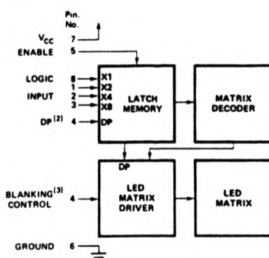

Figure 2. Block Diagram of 5082-7300 Series Logic.
4. Derate maximum DC current above TA = 63°C at 0.81 mA/°C per LED. This derating assumes worst case RθJ-A = 600°C/W/LED. With an improved thermal design, operation at higher temperatures without derating is possible. See Figure 2.